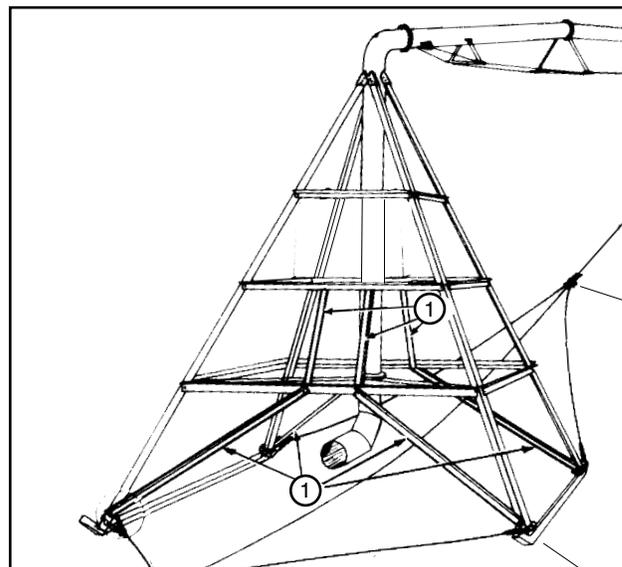

Figure 33-3 1. Tow Brace
4. Make sure that the skid pivot is equipped with tow braces See figure 33-3.